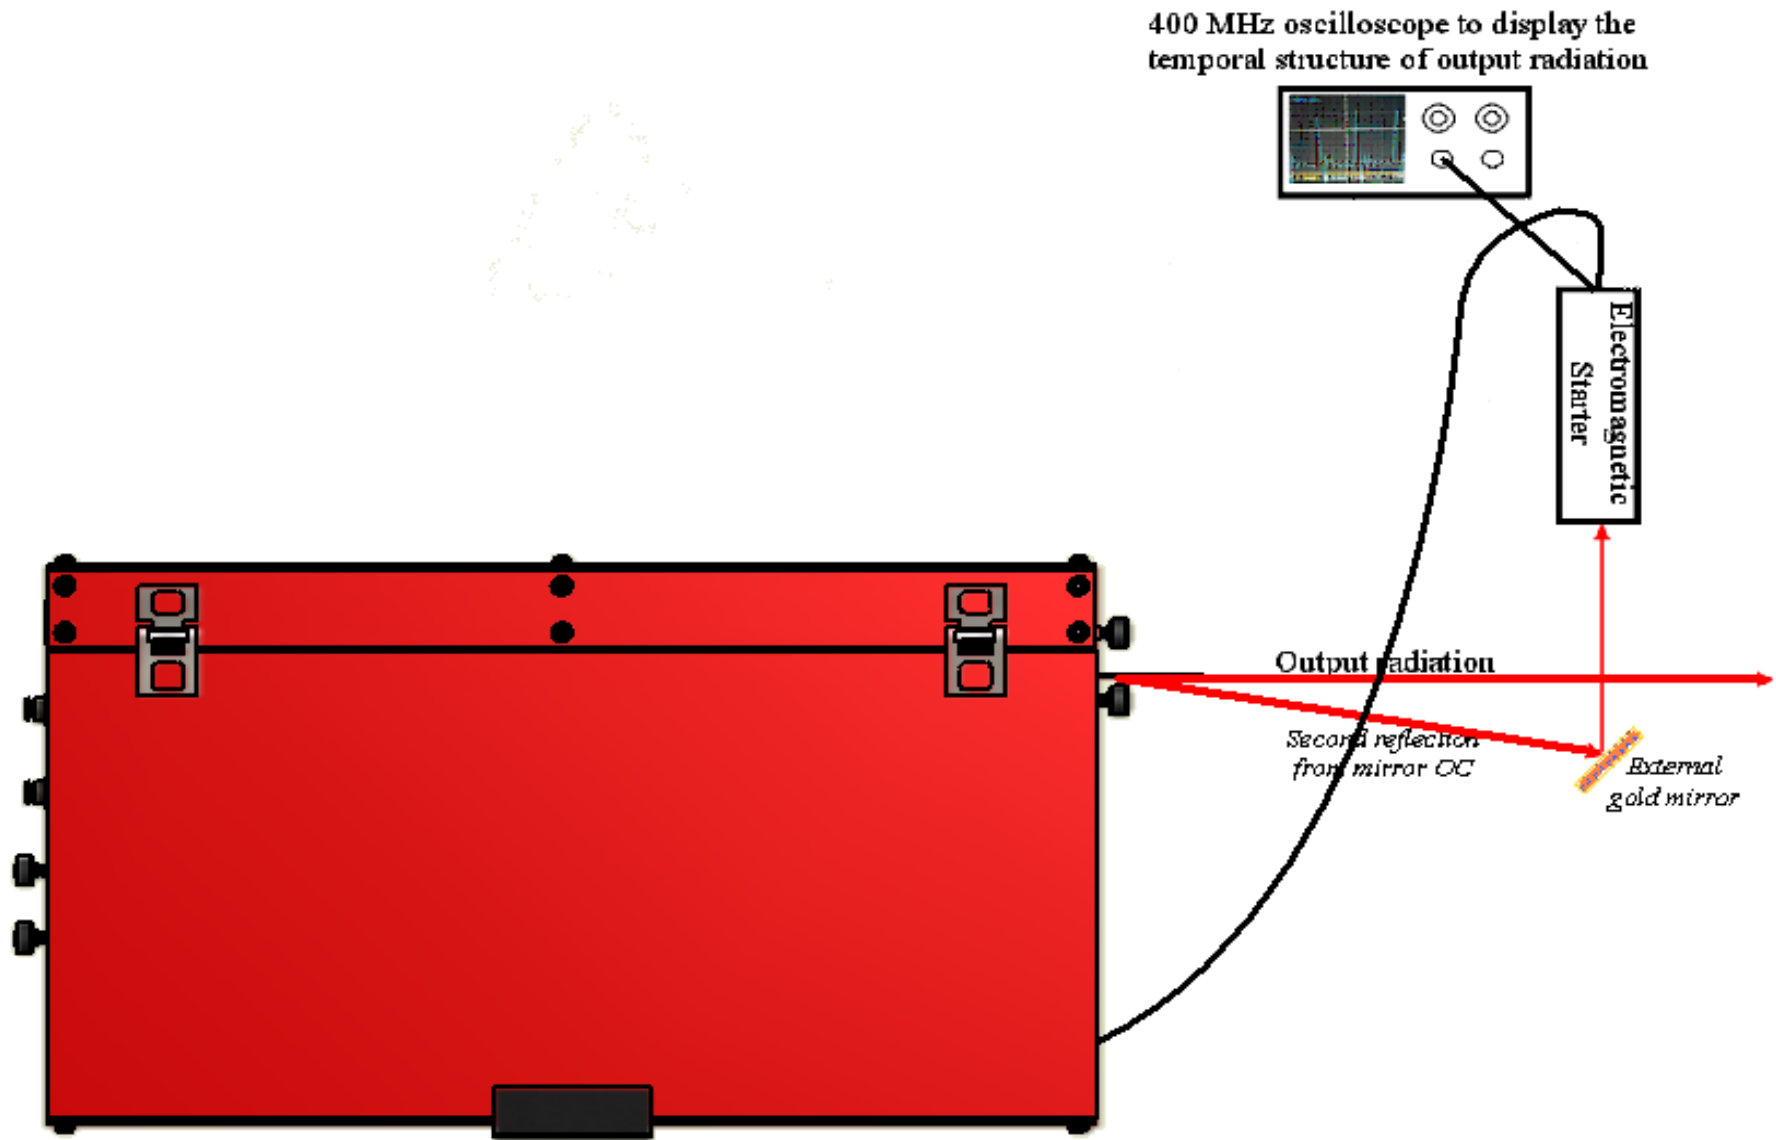

Fig. 24
1. Place and fix your LS-6.0 on the optical table (*Fig. 24*).